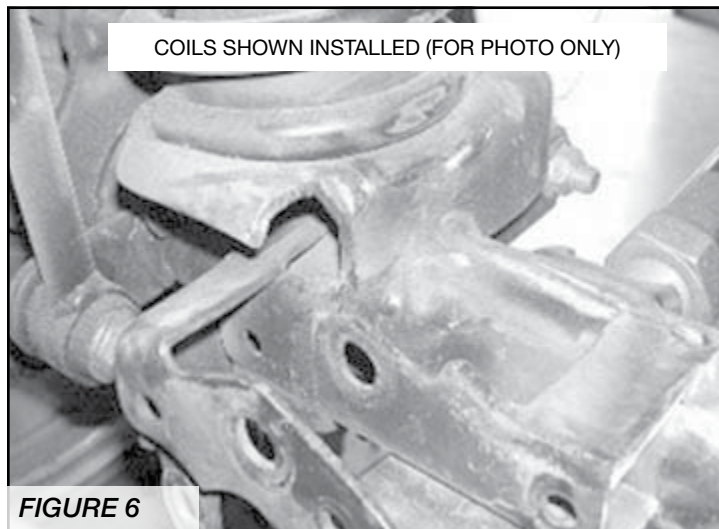

FIGURE 6
9. With the Trac Bar removed from the Jeep, remove any and all paint, dirt, or debris from the axle housing where the new bracket is to be installed. The inside front corner of the coil spring mount will need to be cut / trimmed. From the front of the mount, cut 1 1/4" back and 3/4" in and down to the axle (This is just a starting point. Each vehicle will need to be trimmed to fit due to variances from Jeep to Jeep). **SEE FIGURE 6.**